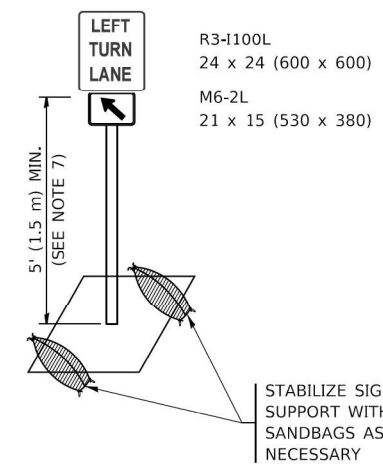

**FIGURE 2**
B) WHEN "L" IS  $>$  THE STORAGE LENGTH OF THE TURN LANE OR THE TURN LANE IS WITHIN THE LANE CLOSURE, USE FIGURE 2.
2. CONES MAY BE SUBSTITUTED FOR BARRICADES OR DRUMS AT HALF THE SPACING DURING DAY OPERATIONS. CONES SHALL BE A MINIMUM OF 28 (710) IN HEIGHT.
4. REFLECTIVE TEMPORARY PAVEMENT MARKINGS SHALL BE PLACED THROUGHOUT THE BARRICADED AREAS OF EACH TURN BAY AS SHOWN WHERE THE CLOSURE TIME IS GREATER THAN FOURTEEN (14) DAYS.
5. THIS APPLICATION ALSO APPLIES WHEN WORK IS BEING PERFORMED IN THE RIGHT LANE(S) AND THE RIGHT TURN BAY IS TO REMAIN OPEN. UNDER THIS CONDITION, "RIGHT TURN LANE" R3-1100R 24 x 24 (600 x 600) AND M6-2R 21 x 15 (530 x 380) SHALL BE USED.